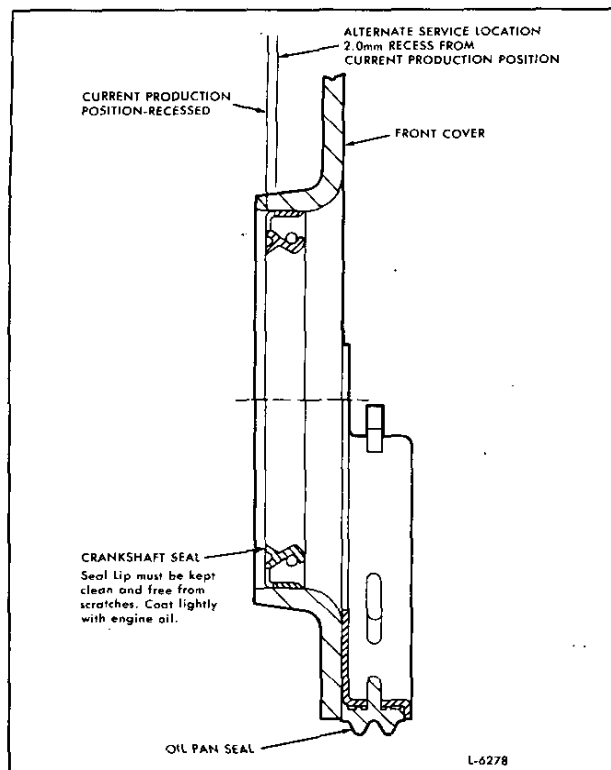

Fig. 1 - Locations for Front Crankshaft Seal
2. If an alternate seal location is selected due to wear or grooving of the crankshaft pulley sealing surface, the seal is to be installed using J 29008-B (installer) and J 29008-5 (alternate location adaptor) as shown in Fig. 1.
the seal is to be installed using J 29008-B and J 29008-5 (alternate adaptor) (see Fig. 1).